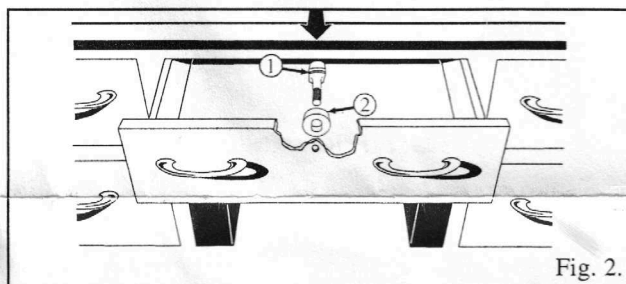

Fig. 2.
2. Insert the screw (1) through the die (2), then insert the screw through the drilled hole and slip on the punch (3) from the opposite side. See Figs. 2 and 3. Be sure the points of the punch are contacting the metal.